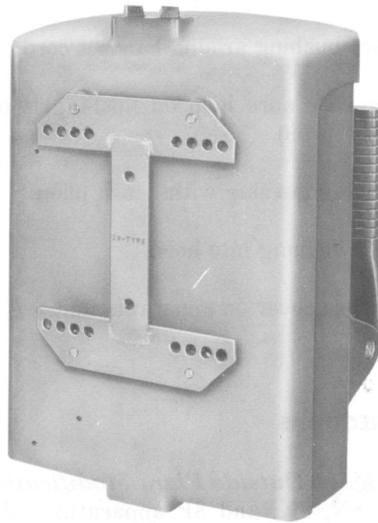

Fig. 8—570-Type Telephone Set Mounted on 29-Type Bracket
3.01 The 570-type telephone set should be mounted on a 29-type bracket (Fig. 8) when a firm, even, vertical surface is not available. Refer to Table C for fasteners.